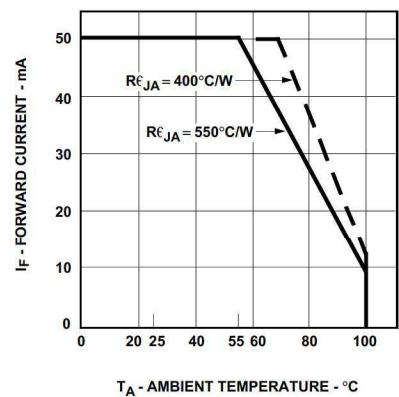

Figure 5. Maximum Forward DC Current vs. Ambient Temperature. Derating Based on $T_{JMAX} = 110^{\circ}\text{C}$.
3. Derate linearly as shown in Figure 5.